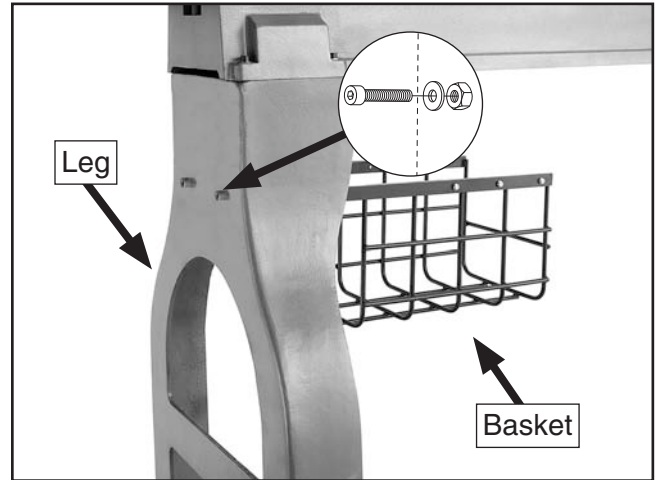

Figure 14. Attaching basket to leg.
- Attach the storage basket to the leg using the remaining M8-1.25 x 35 cap screws, flat washers, and hex nuts, as shown in **Figure 14**.